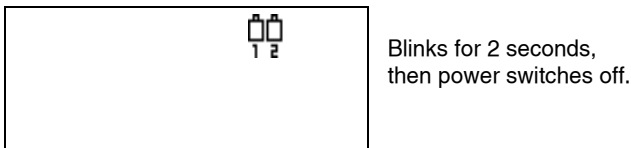

Figure 2-6. Display – Battery/Power Status without Batteries
- If no batteries are installed, the battery status icons blink for two seconds (Figure 2-6), then power switches off.